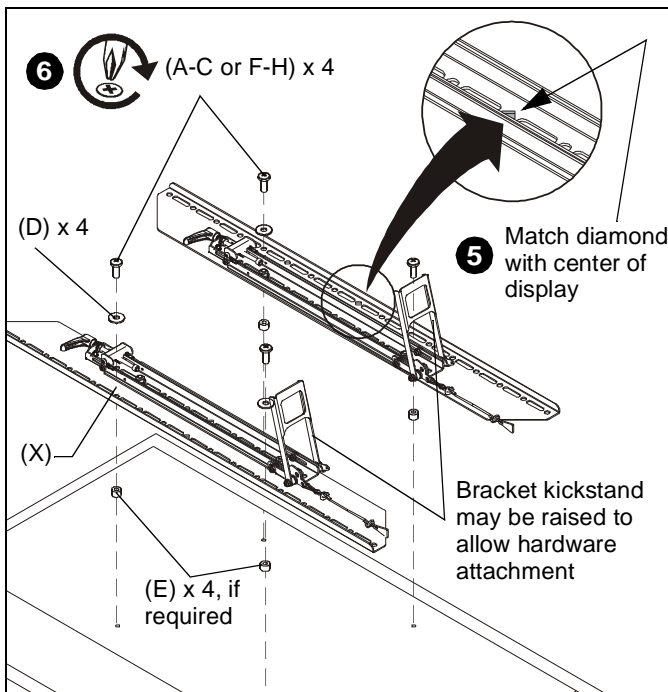

Figure 10
- Select screw *diameter* by examining hardware (A-C and F-H) (6mm or 8mm) and comparing with mounting holes on display. (See Figure 10)
- Spacers are **NOT** required if mounting holes are not recessed and interface brackets (X) can lay flat against display.
- Spacers (E) **ARE** required if mounting holes are recessed, or if protrusions prevent interface brackets (X) from laying flat.
- Select screw *length*: (See Figure 10)
- By hand, insert **SHORTEST** length screw of selected diameter (A or F) through 3/16" washer (D, if using screw A), bracket (X), selected spacer (E, if required), into display mounting hole. Do NOT thread screw into hole at this time.
- Make sure diamond on interface brackets is even with center of display. (See Figure 10)
- Use selected screws (A-C or F-H), washers (D, if using screws A, B or C) and spacers (E), if necessary, to connect interface brackets (X) to back of display. (See Figure 10)